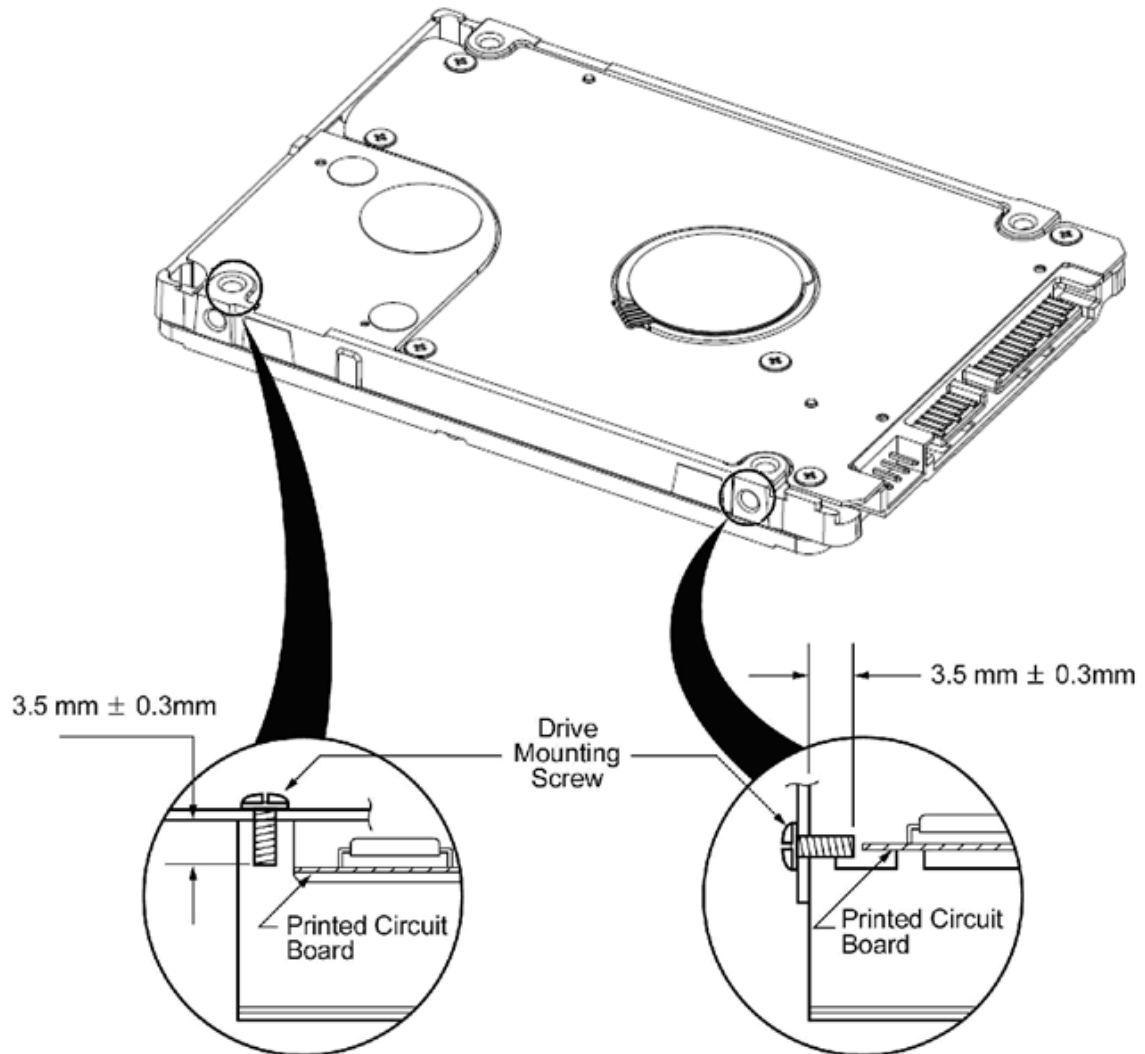

Figure 4-3 : Mounting-Screw Clearance
The printed circuit board (PCB) is designed to be very close to the mounting holes. Do not exceed the specified length for the mounting screw described in Figure 4-3. The specified screw length allows full use of the mounting-hole threads, while avoiding damage or placing unwanted stress on the PCB.
**CAUTION: Using mounting screws that are longer than the maximum lengths specified in Figure 4-3 voids the warranty of the drive.**